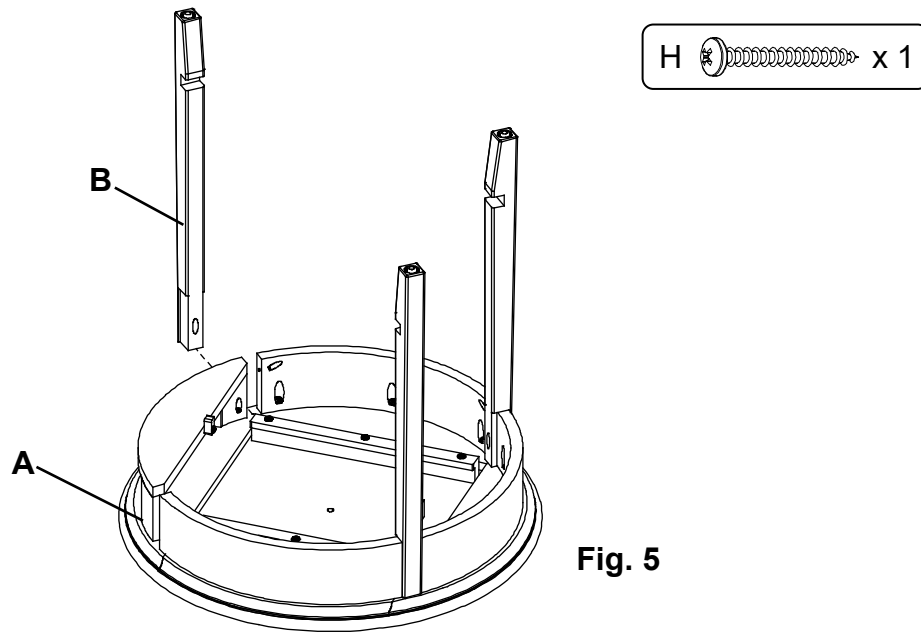

Fig. 5
5. Place a third Leg (B) in a corner of the Top Assembly (A) and using the pocket hole as a guide, secure the Leg (B) with one #8 x 1-1/4" Pan Head Screw (H). See Figure 5.